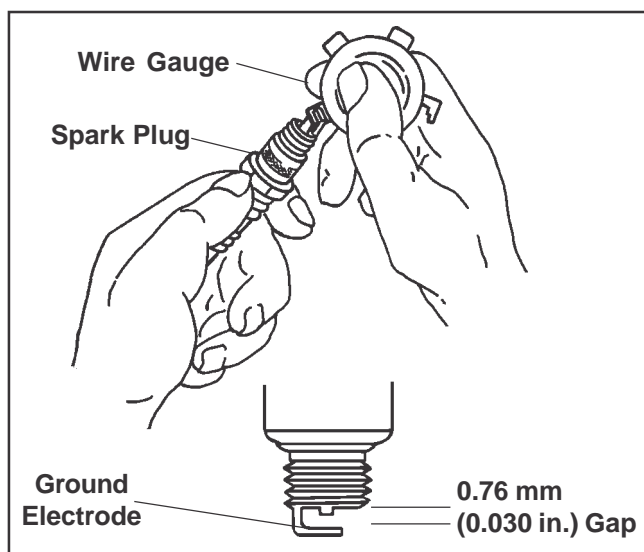

Figure 7-1. Servicing Spark Plug.
3. Check the gap using a wire feeler gauge. Adjust the gap to **0.76 mm (0.030 in.)** by carefully bending the ground electrode. See Figure 7-1.